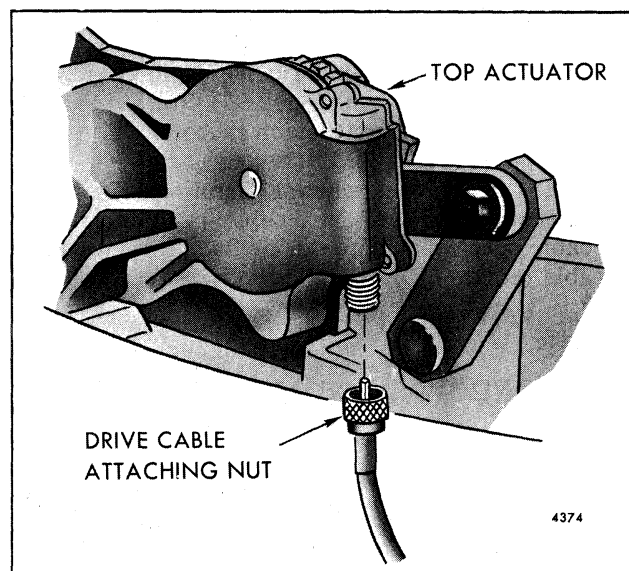

Fig. 8-98-Drive Cable to Top Actuator Attachment
3. Disconnect drive cable from actuator assembly (Fig. 8-98).
2. Disconnect drive cables at each top actuator (Fig. 8-98). Manually shake each side roof rail to stabilize in its proper position.